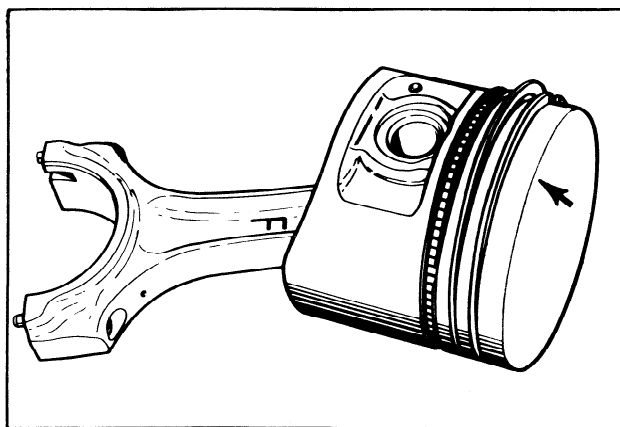

FIG. 49 Connecting Rod and Piston Assembly
17. Assemble the respective pistons to their connecting rods. Be sure the "F" or "front" on the rod and the arrow on the top of the piston face the same side (Figure 49). Push the piston pin into the piston and rod and install the two piston pin snap rings on service pistons only.